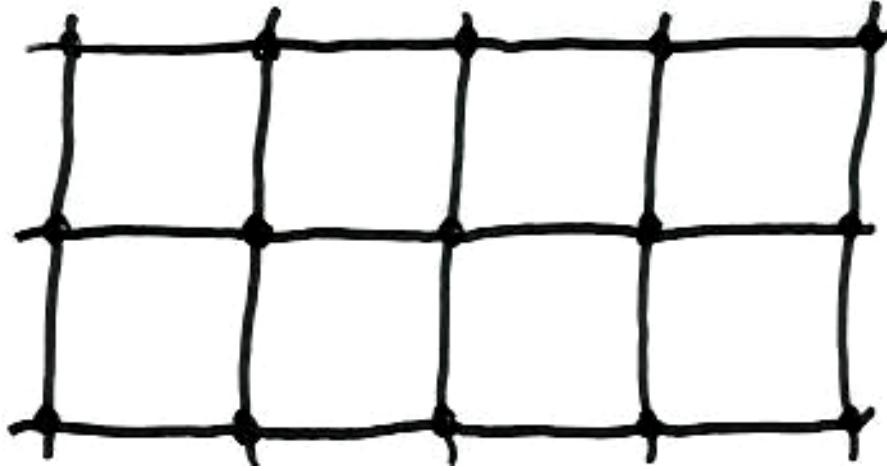
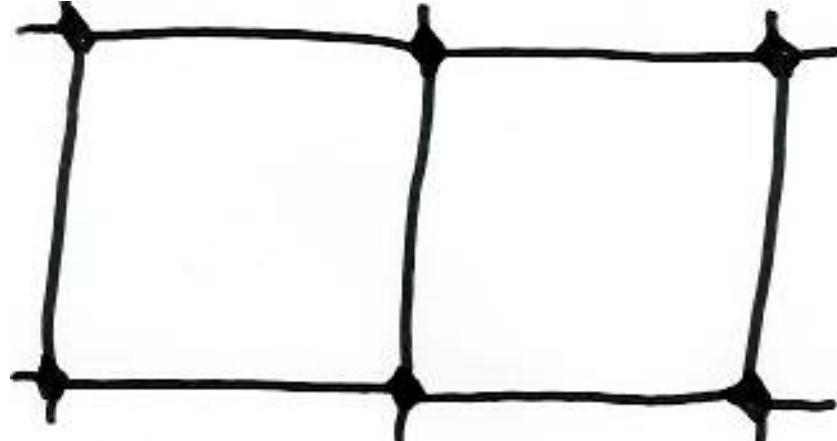

fig. 1
fig. 2
- 2.1 Fencing shall be of a type specifically sold for protection of plant material from deer. Acceptable fencing shall consist of plastic material, black in color, with openings no smaller than one inch (1") square (*fig. 1 below*) and no larger than two inches (2") square (*fig. 2 below*).